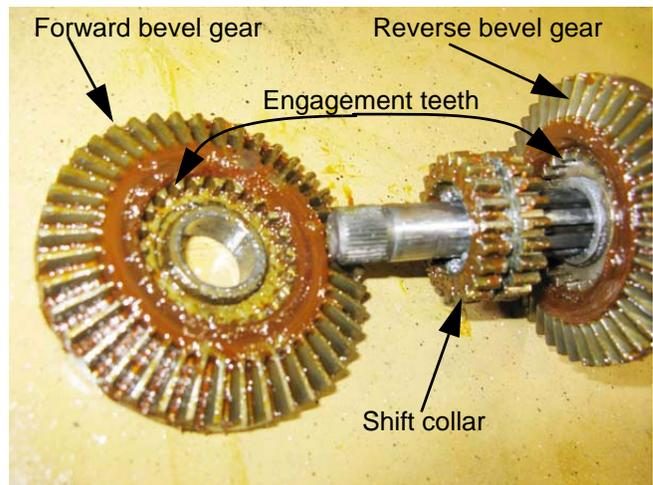

Figure 6.95
13. Lift the bevel gears out of the transaxle for disassembly and (mostly) visual inspection. See Figure 6.95.